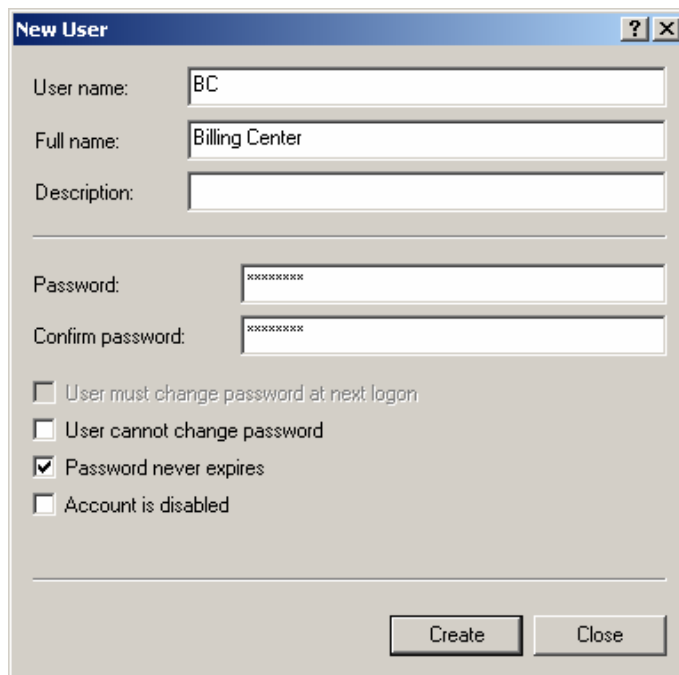

Figure 2-67 [New User] dialog box
- 2) Select [Users]. Select [Action/New User] to create a username and password for the billing center to log on to the iGWB. A dialog box is displayed, as shown in Figure 2-67.